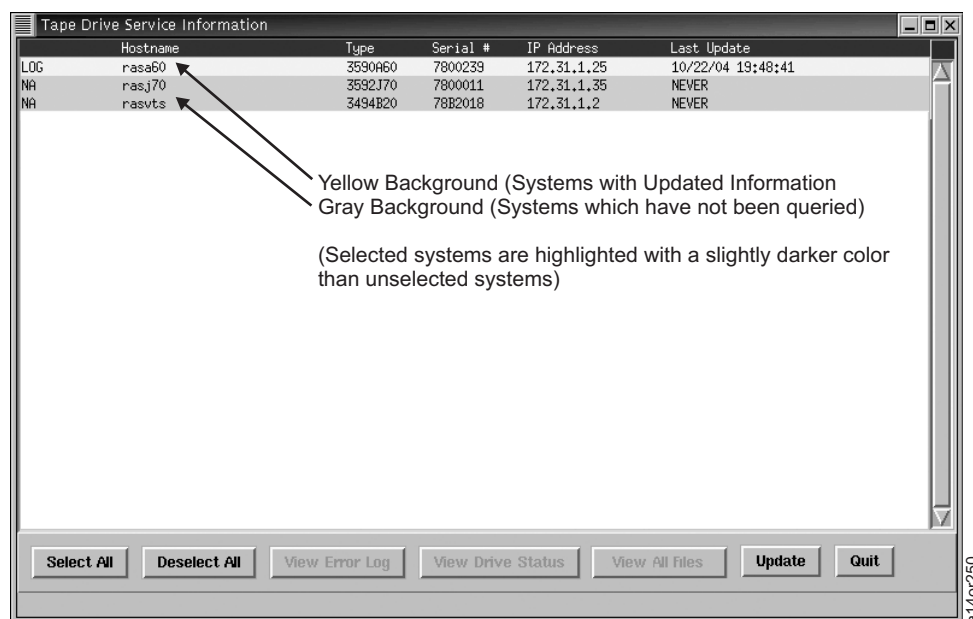

Figure 3-13. Tape Drive Service Information – Main Screen
1. See Figure 3-13. After you complete the System Console configuration, the tool to update and review tape drive service information for attached systems is automatically enabled. Right click from anywhere in the Desktop to view the Main Menu shown in Figure 2-52 on page 2-39.
3. The Figure 3-13 lists all systems attached to the System Console which might have tape drive information available. The Main Screen shows a summary of the update status of the systems attached to the System Console as of the DATE and TIME INDICATED in the right column. The systems listed are highlighted according to the following color scheme:
- Each report may be viewed by selecting one of the systems listed on the Main Screen (Figure 3-13 on page 3-12), then clicking **View Error Log** or **View Drive Status**. Systems may be selected by pointing to the system list entry, and clicking the left mouse button once. (Clicking the entry a second time deselects the system.)
- From the Main Screen in Figure 3-13 on page 3-12, select **Quit** to quit.